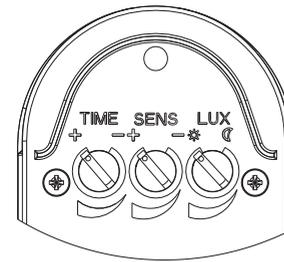

Fig 2
**ADJUSTING THE TIME DURATION:** (Fig 2) The TIME adjustment has a minimum of approx. 10 seconds when turned counter clockwise to the end. Use this setting for walk testing the unit. After walk test is complete, adjust this setting clockwise to the preferred duration the light is activated for when it detects movement. The maximum clockwise setting will be approx. 4 minutes.
**ADJUSTING THE LUX CONTROL LEVEL:** This sets the acceptable amount of daylight present before the unit will start detecting. Rotating the dial clockwise to the (\*) position will set it to operate both day and night. Use this setting for walk testing the unit. Fully rotating counter clockwise to the (C) position will set the unit to only activate at night.